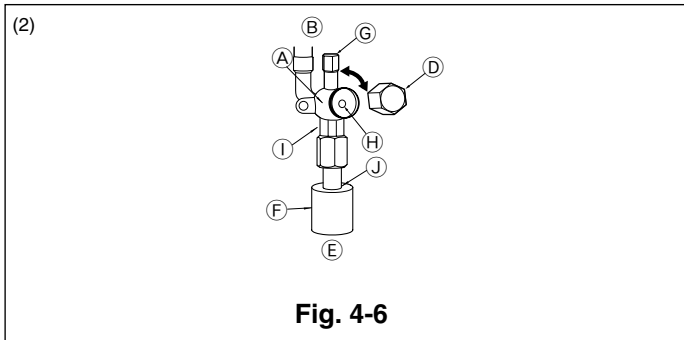

Fig. 4-6
- ① Remove the cap, pull the handle toward you and rotate 1/4 turn in a counterclockwise direction to open.
- ② Make sure that the stop valve is open completely, push in the handle and rotate the cap back to its original position.
- (2) Liquid side of A24-A42 and Gas/Liquid side of A12, A18 (Fig. 4-6)
- ① Remove the cap and turn the valve rod counterclockwise as far as it will go with the use of a 4 mm hexagonal wrench. Stop turning when it hits the stopper. (ø6.35, 1/4 inch: Approximately 4.5 revolutions) (ø9.52, 3/8 inch: Approximately 10 revolutions)
- (A) Valve
- (B) Unit side
- (C) Operation section
- (D) Cap
- (E) Local pipe side
- (F) Pipe cover
- (G) Service port
- (H) Wrench hole